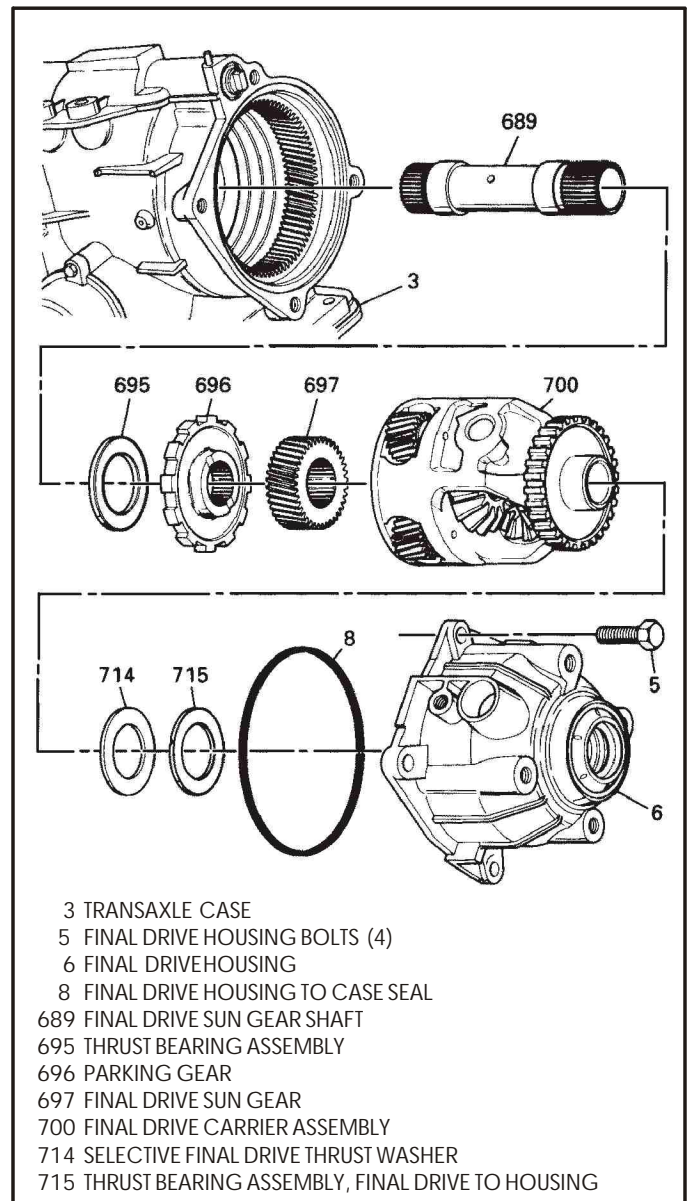

Figure 56
1. Remove the four bolts that retain the final drive housing (See Figure 56).
2. Remove the final drive housing from transaxle, remove and discard the axle seal and "O" ring seal (See Figure 56).